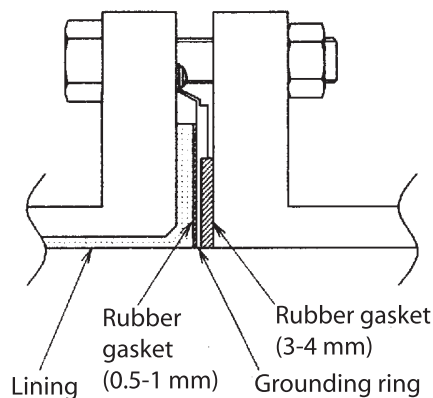

Figure 34. Installation on PVC Pipe with non-316 ss Grounding Ring (with Rubber Gaskets)
- Use this method to install the flowtube using a low fastening torque and rubber gaskets. First, remove the grounding ring from the flowtube, then insert a rubber gasket with a thickness of 0.5 to 1.0 mm. Then reinsert the grounding ring on top of the rubber gasket. Next, remove the PTFE gasket and insert a rubber gasket 3.0 to 4.0 mm thick to replace it. Under these conditions, install the flowtube on the pipe as shown in Figure 34. Tighten the bolts to the torque required to achieve a fluid seal for the rubber gasket. In this case, the two kinds of rubber gaskets that are used should be made of the same material. For the dimensions of the rubber gaskets, refer to Tables 4 and 5.